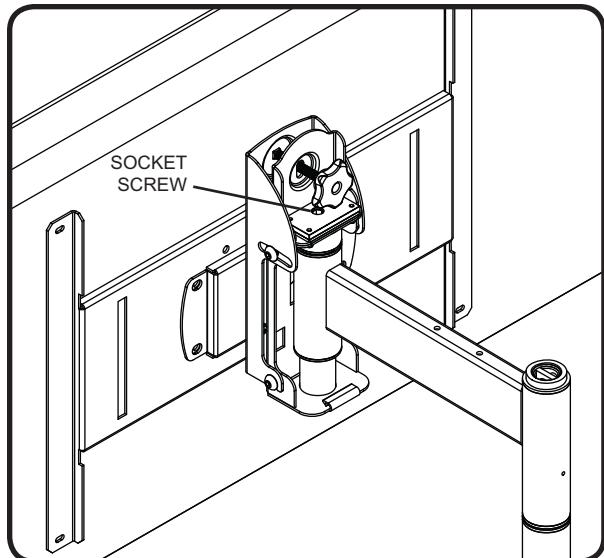

fig 8.1
• To lower screen, turn socket screw shown in figure 8.1 clockwise with 10 mm allen wrench (**V**).
• To raise screen, turn socket screw shown in figure 8.1 counterclockwise with 10 mm allen wrench (**V**).